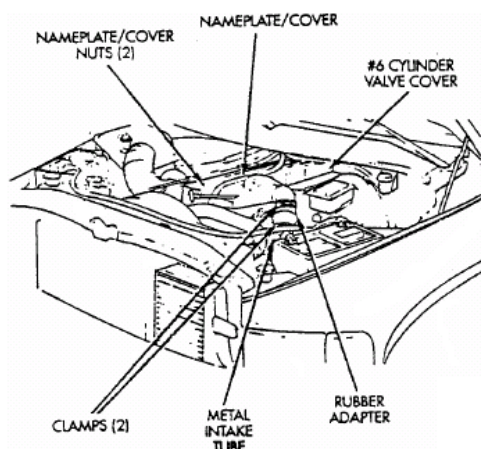

Fig 12: Nameplate/Cover - Diesel
- 1: Remove the two nuts retaining the nameplate/cover to the top of the six engine valve covers (Fig 12). Remove nameplate cover from the engine.